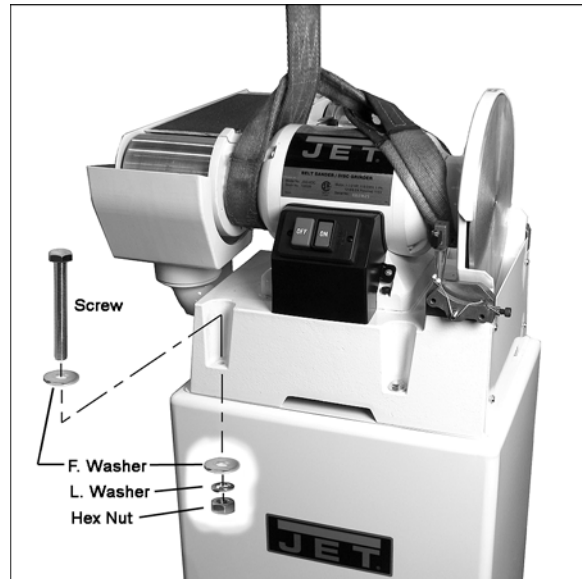

Figure 11
3. Bolt the unit firmly to secure it in position. Figure 11 shows it being bolted to the optional closed stand. Use the four M10x80 hex cap screws, with M10 lock washers, flat washers and hex nuts. Tighten hex nut while holding the screw head stationary, using two 11/16" wrenches. Remove lifting straps.